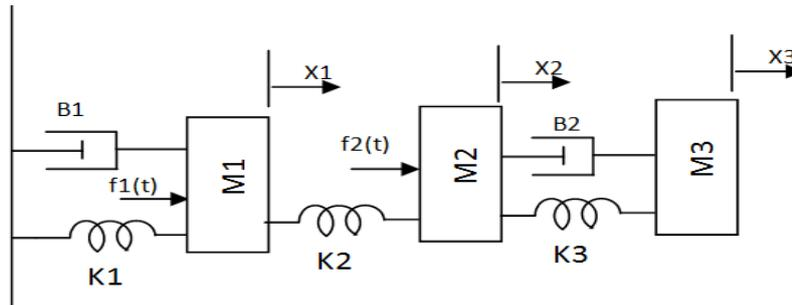

Fig.1
- (b) Write the differential equations governing the mechanical system shown in Fig.1. 10 M